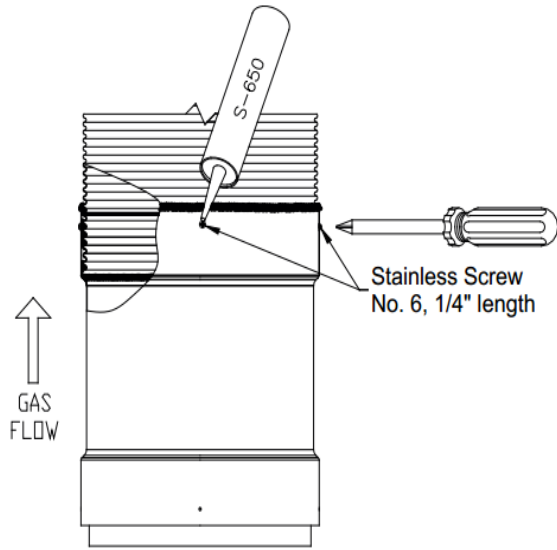

Figure 21 -DuraSeal Flex screws
- 2.5. Add the red S-650 caulking over the screws (Figure 21).